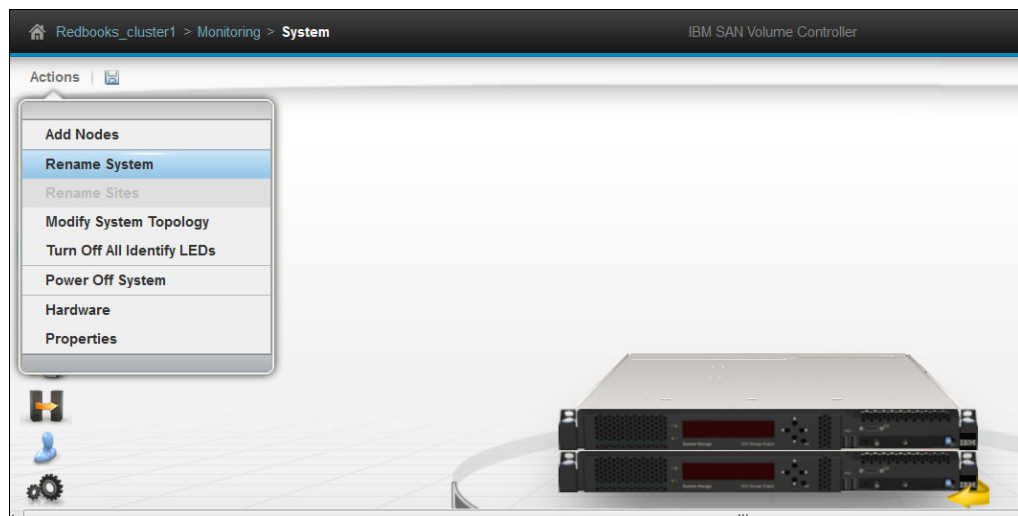

Figure 15-8 Changing the system name
- c. Click **Rename system**, as shown in Figure 15-8.